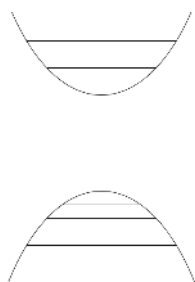

Figure 1. Schematic for excitation and relaxation processes of photoluminescence
Photoluminescence (PL) spectroscopy is a form of light emission spectroscopy in which the light emission comes from a process called photo-excitation. As the light is directed onto a sample, the electrons within the material move into excited states. (excitation) When the electrons come down from the excited states to their equilibrium states, the energy can be released in the form of light. (relaxation) The photo-excitation and relaxation processes can be represented graphically in a figure below. (Figure 1)